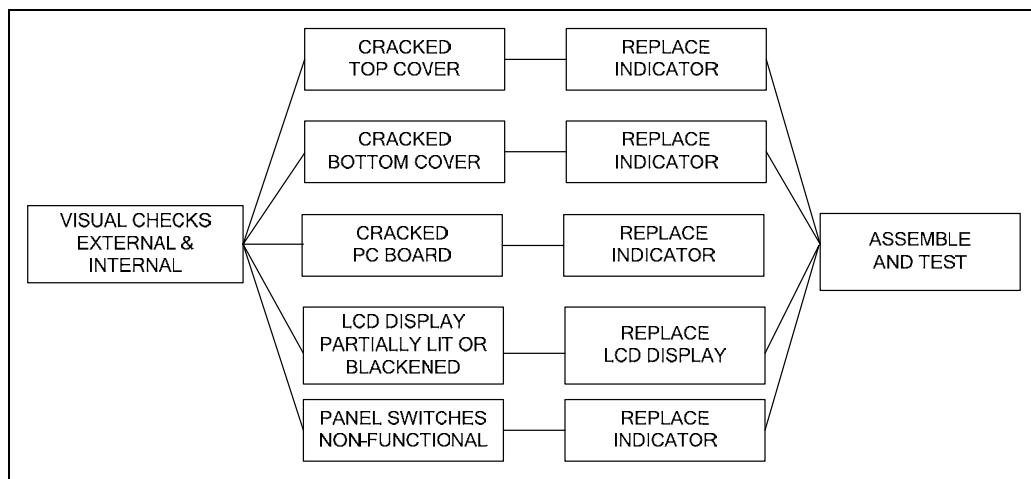

Figure 2-1. Visual Checking Procedures.
3. Using a DVM, measure the excitation voltage (EXE+ and EXE– in Figure 2-1.) The reading should be 3 volts dc. This is the excitation voltage for the Load Cell and is regulated. If the voltage is lower, replace the PCB. (See Chapter 3.) Then perform Operational Tests. (See Chapter 4.)
4. Measure incoming power from the AC Adapter Connector. (See Figure 2-1.) It should read between 9 and 14 volts dc with power off and above 9 Volts dc with power on.
3. With the Simulator set to zero, attach it to the PCB, using the Load Cell Cable solder points on the PCB. (See Figure 2-1.).